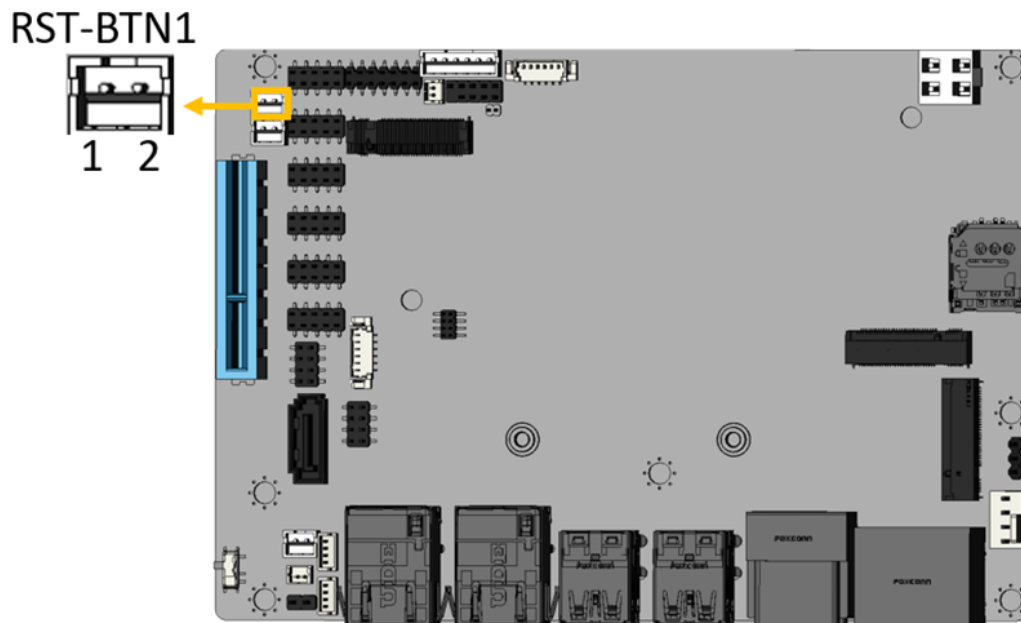

Figure 3-14: Reset Button Connector Location
- CN Location:** See Figure 3-14